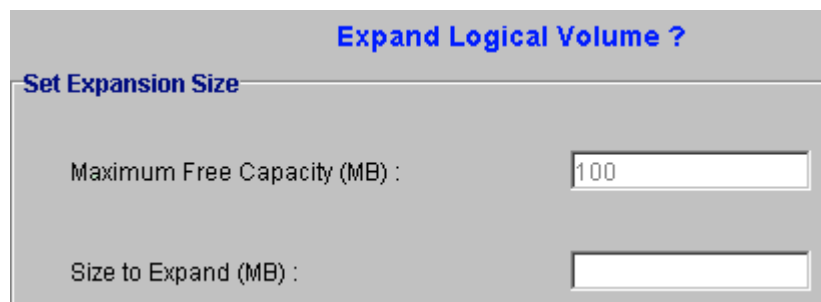

Figure 8-49: Expand Logical Drive Window
Step 7. Once the “*Expand*” tab has been selected the “*Expand Logical Volume*” window shown in *Figure 8-49* will appear in the content panel.